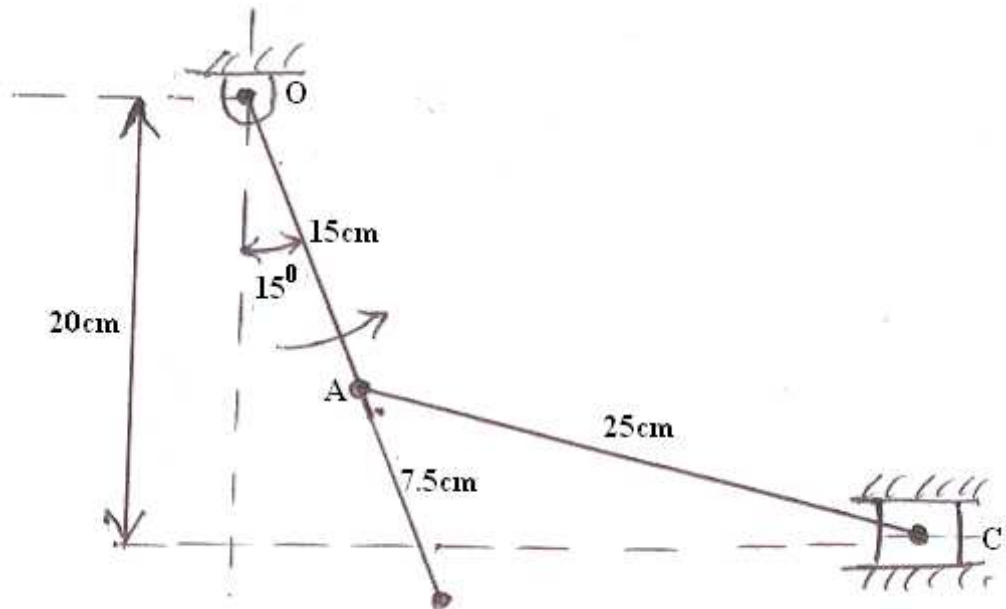

Figure 6c
6. The oscillating link OAB of a mechanism shown in figure 6c. is pivoted at O and is moving at 90 rpm. (ccw). Calculate if OA = 15 cm, AB = 7.5 cm and AC = 25 cm.